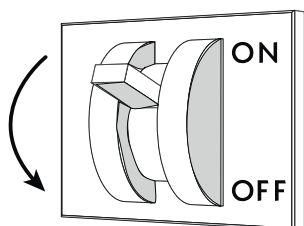

Fig. 28
- Disconnect the power supply to the cabinet using the wall-mounted main switch-disconnector ("Fig. 28").